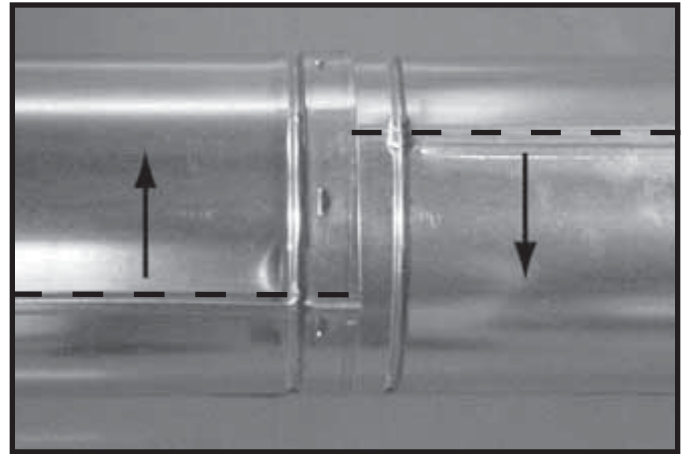

Figure 10.7 Rotate Seams for Disassembly
- Rotate either section (see Figure 10.7) so the seams on both pipe sections are aligned as shown in Figure 10.8.